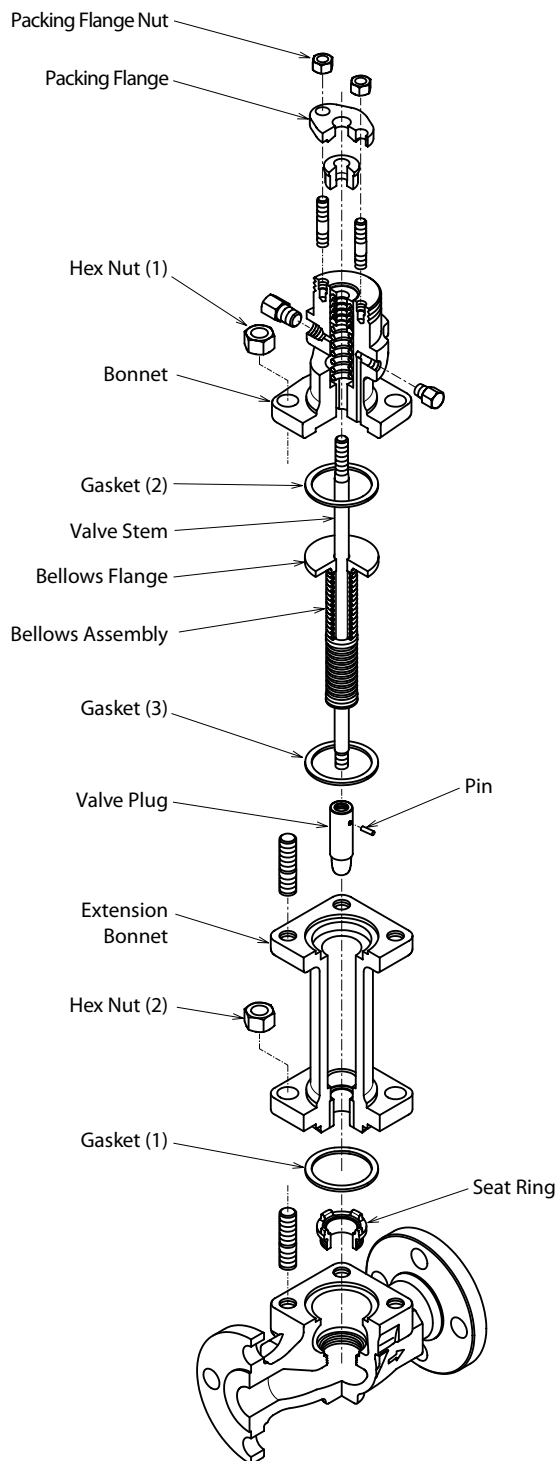
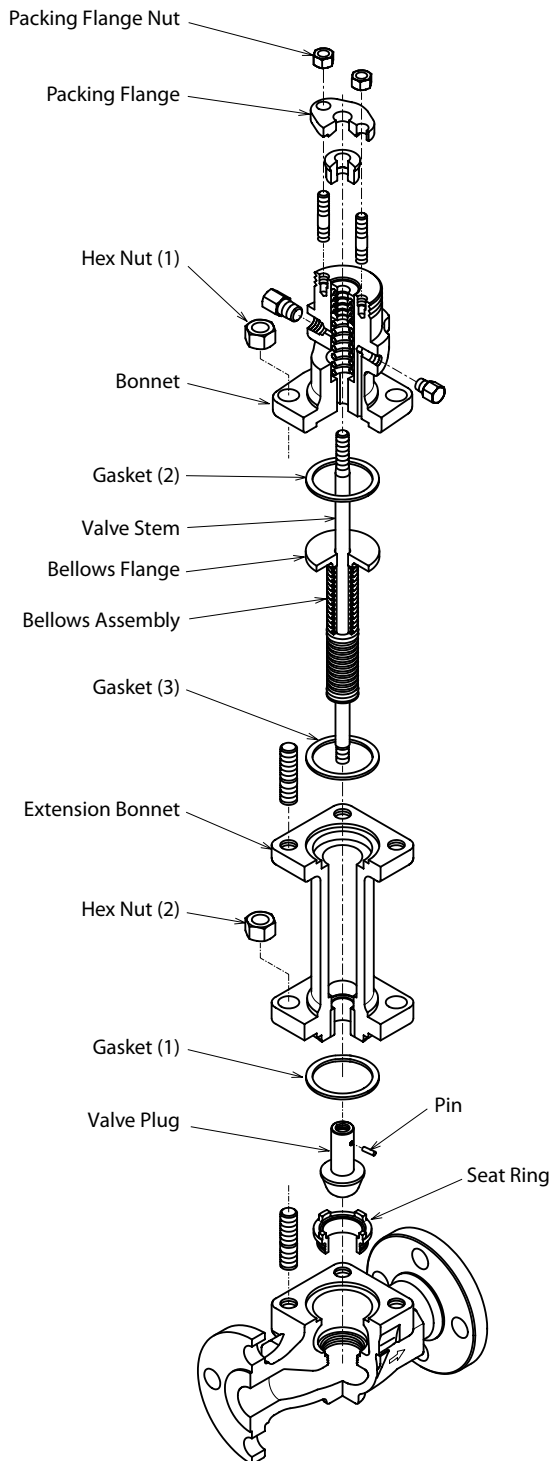

Figure 10-1 Model HLS Control Valves with Bellows seal ($C_v \geq 4$)
Figure 10-2 Model HLS Control Valves with Bellows seal ($C_v \geq 6.3$) and with PTFE Insert
The handling methods of Model HLS Control Valves differ as the shapes of their ports differ depending on, Cv values and on whether they are provided with a PTFE insert or not. The structures of typical valves are shown in Figure 10-1 and Figure 10-2.
(6)-2. For Valves with $C_v \geq 6.3$ and with PTFE Insert (See Figure 10-2.)